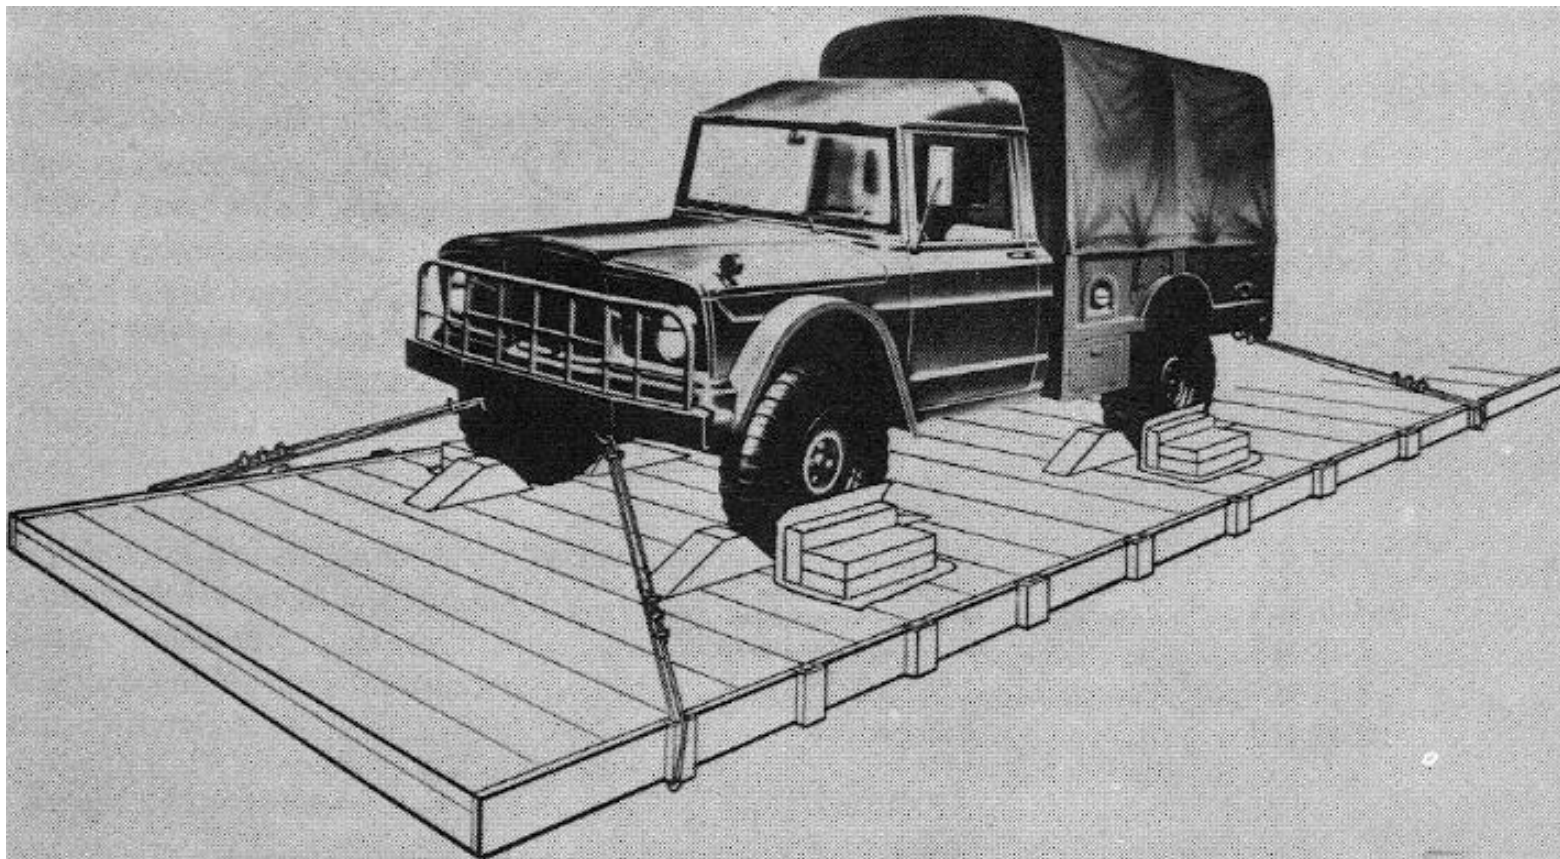

Figure 4-1. Vehicle position on flatcar.
- (1) Brake wheel clearance. Load vehicle on flat-car with minimum clearance of 12-inches from the flatcar brake wheel. Brake wheel clearance should be increased as much as it is consistent with proper location of load. The vehicle must be positioned on the flatcar with the wheels centrally located between the stake pockets, to provide uniform positioning of the tie down cables. Refer to Figure 4-1.
- (5) Vehicle secured on flat car. The 1-1/4 ton, 4 x 4 CARGO TRUCK M715 (fig 4-1) has not been processed for domestic freight shipment but simply illustrates the proper method of blocking vehicle on the flatcar.